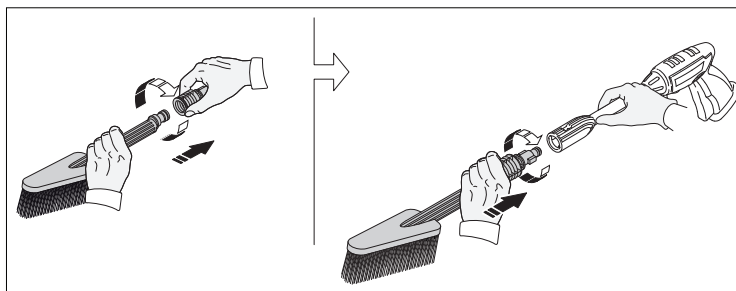

Fig. 9
- Fixed brush installation/operation: Attach the fixed brush adapter to the brush handle. Press the adapter on to the handle and turn clockwise to lock the adapter on the handle. Insert the brush handle adapter into the spray gun. Press the brush handle into the gun and turn clockwise to lock the brush into the gun (**Fig. 9**).